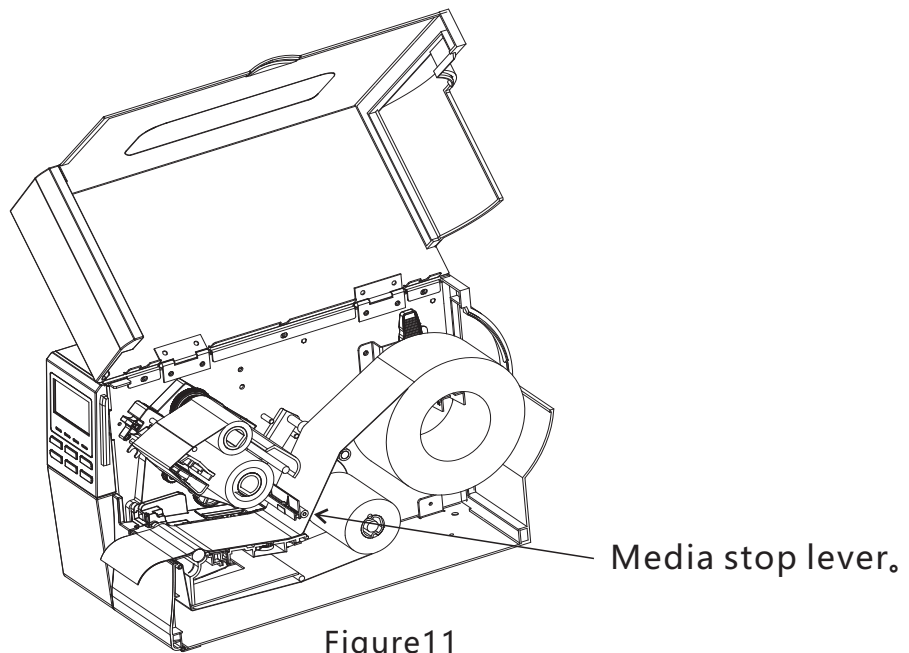

Figure11
2.7.6 As shown in Figure 11, pass the media under the media stop bar until the media reaches the front of the printer.